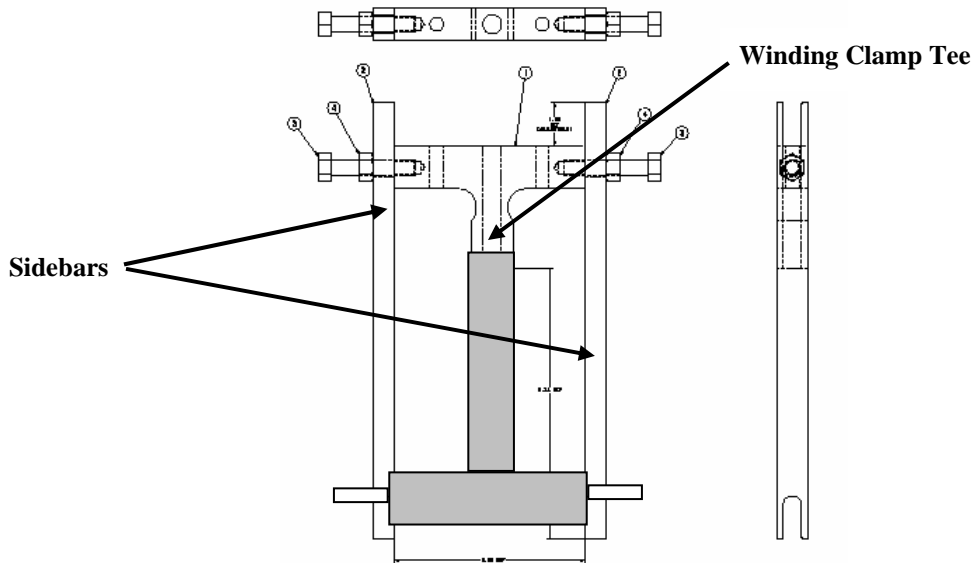

Figure 13- Winding Clamps
Mount the top tee section of the winding clamps to the MCWF as shown in Figure 13- Winding Clamps. The clamps are located approximately every 3 inches along the entire length of the MCWF. Secure the winding clamp tee to the top of the septum using the appropriate hardware. Use the (2) side bars to assist in the positioning of the top section, but do not leave in place.